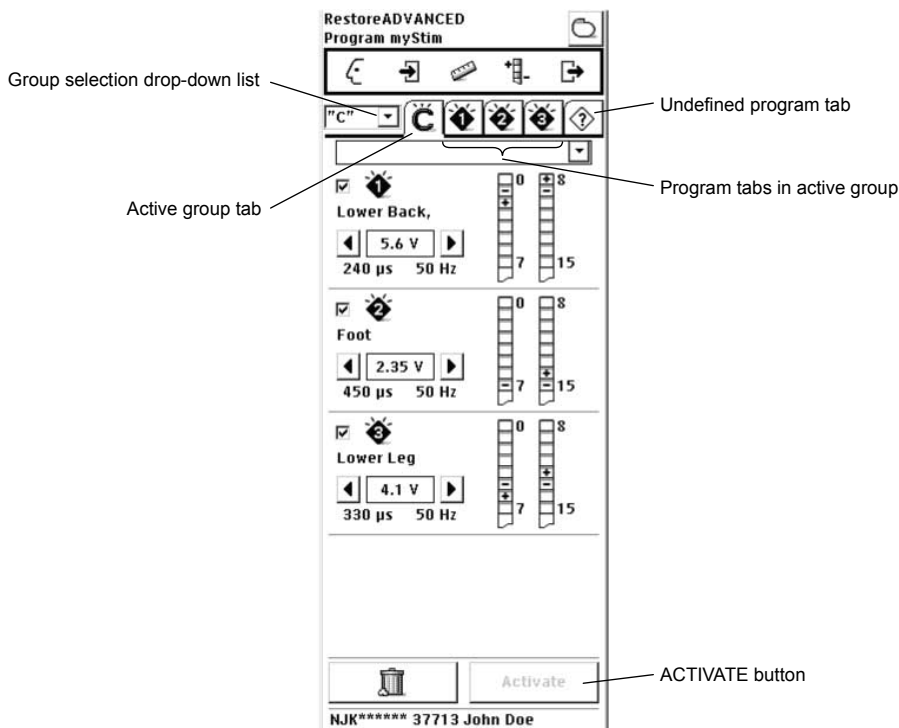

Figure 26. PROGRAM mySTIM screen.
2. Select a group from the group selection drop-down list (Figure 26).
2. Select a group (Figure 26 on page 49) from the group selection drop-down list. The selected group letter appears on the group tab.
3. Activate the group by selecting the ACTIVATE button (Figure 26 on page 49).